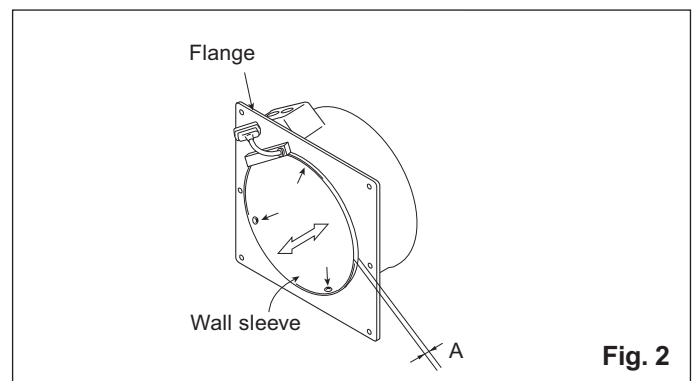

Fig. 2
2. Adjust position of the flange on the wall sleeve (Fig. 2). Loosen the three screws (arrow pointed) and slide the wall sleeve horizontally to adjust its position to compensate for the thickness of the interior wall (A). When this has been done, tighten all three screws.